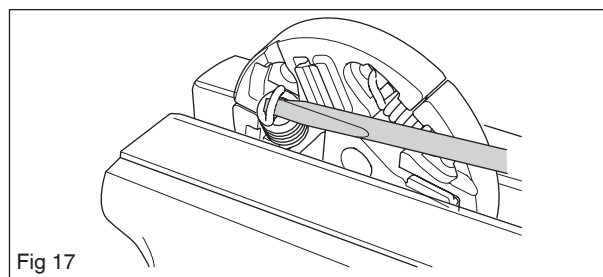

Fig 17
1. Insert the clutch springs on the side of the shoes without text. See figure 17.